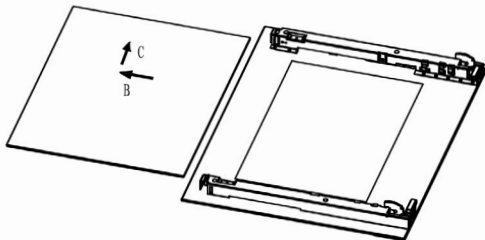

Fig.4
4. Take out middle glass. (Fig.4)the door again.